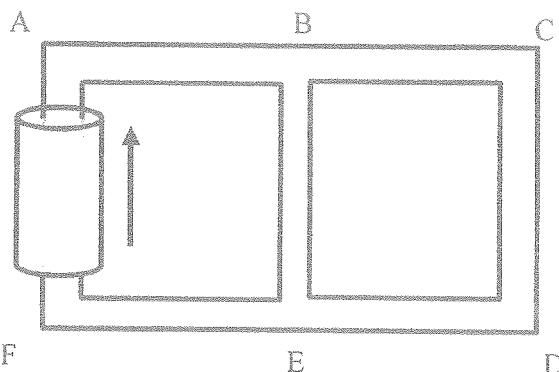

Figure Q1
- Q1 a) The following Figure Q1 shows a part of an electromechanical actuator (not in scale) in which the direction of flux is FA direction as shown. The coil wound around FA link has 6500 turns. The mean length of AB, BC and BE sections are 15 cm, 20 cm and 25 cm respectively. The magnetic core has uniform cross sectional area of 3 cm^2 . The relative permeability of the material used is 1000 and the permeability of free space is $\mu_0 = 4\pi \times 10^{-7} \text{ Hm}^{-1}$.